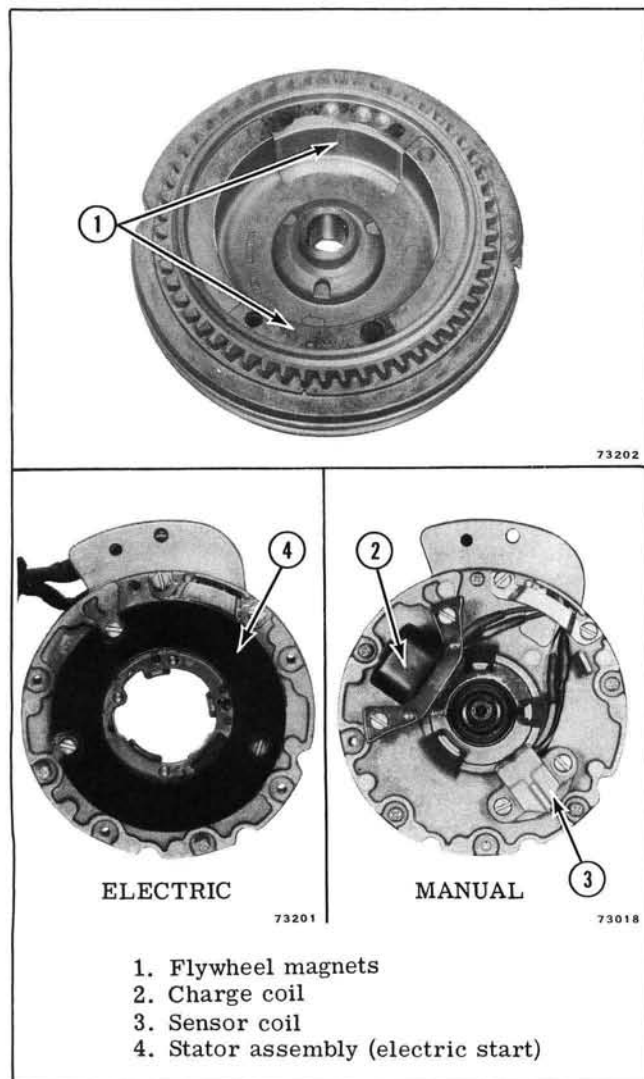

Figure 4-1. Armature Plate and Flywheel
1. Flywheel Assembly - Contains two magnets, cast into the flywheel 180 degrees apart. These magnets are magnetically charged of opposite polarity. See Figure 4-1.
2. Charge Coil Assembly - A large coil of wire which generates Alternating Current (A.C.) that is sent into the Power Pack. See Figure 4-1.
3. Sensor Assembly - A small coil of wire which generates the triggering voltage for the Power Pack. See Figure 4-1.